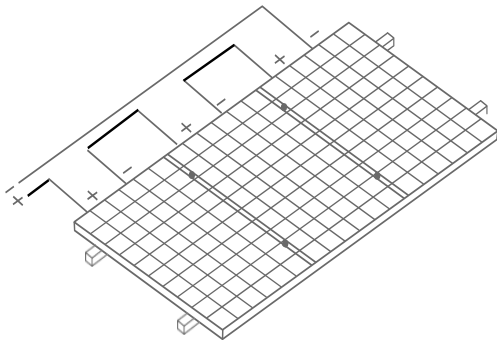

Figure 20 Connection in series
- It is not allowed to use different models of modules in the same solar PV system. When modules are connected in series, the voltage of every string shall not be higher than the maximum voltage of the system (as shown in Figure 20). Please refer to the national, regional or local specifications for details.